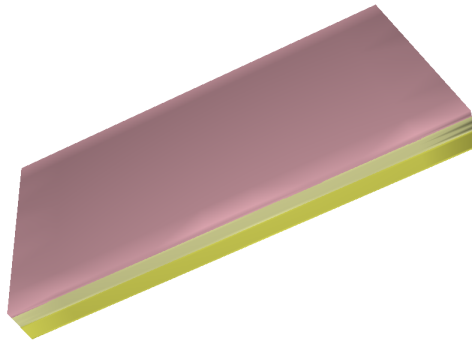

Figure 3: Skin1 visual
- Visual model: triangles (identity mapping from collision): Fig 3.